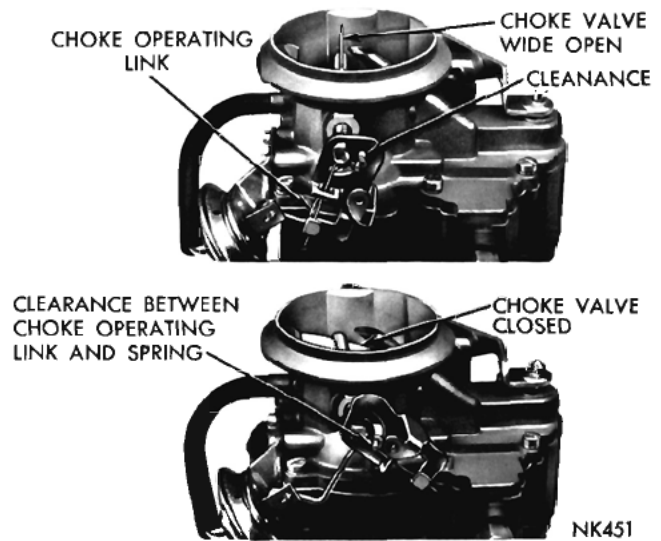

Fig. 20—Choke Operating Link Clearances
(8) Reinstall the vacuum hose to the diaphragm and with no vacuum applied to the diaphragm, some clearance should exist between the choke operating link and the choke lever slot, in both the open and closed choke positions, as shown in (Fig. 20). **This clearance is necessary to allow the choke valve to close for starting as well as fully open after the engine reaches normal operating temperature.**